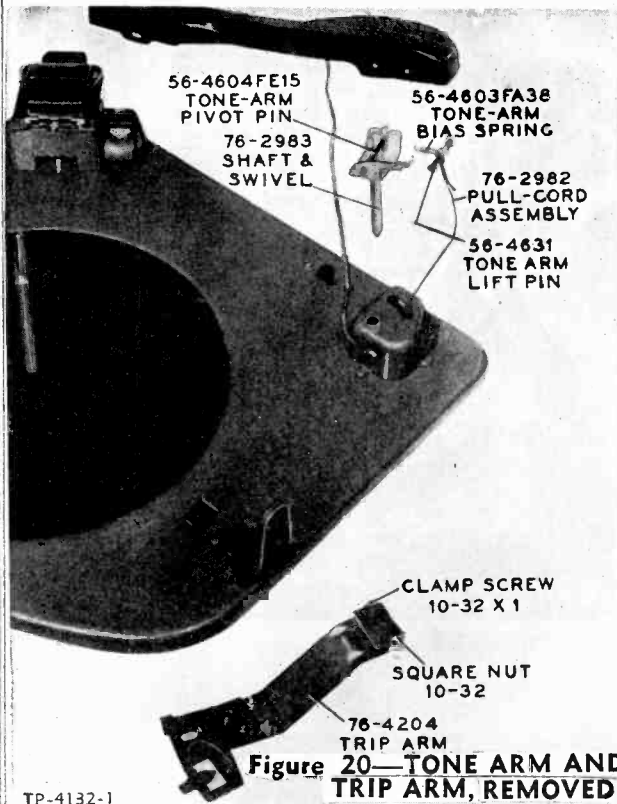

Figure 20—TONE ARM AND TRIP ARM, REMOVED
- c. Loosen clamp screw which holds trip arm to tone-arm shaft, 76-2983 (figure 20). Lift out tone arm and shaft.